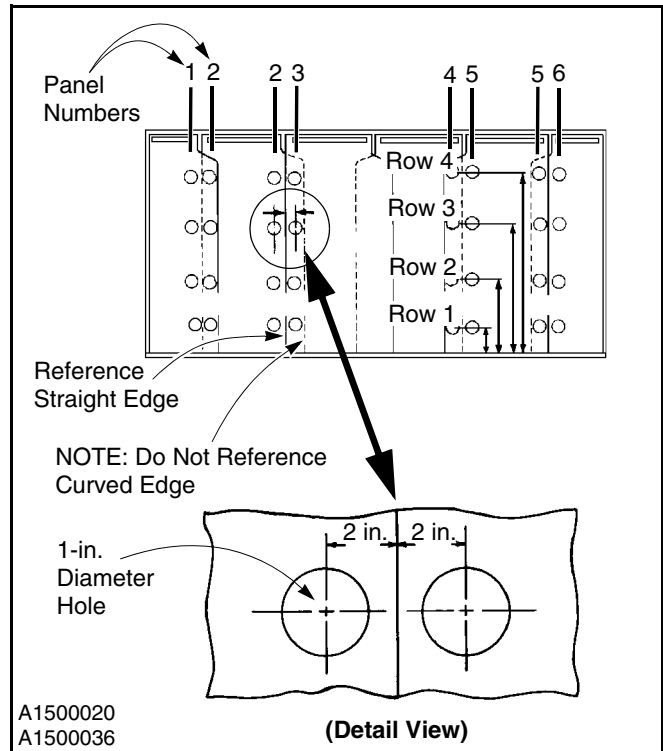

Figure 54
3. Once the number of rows is determined, the next step is to lay out a column of holes along each overlapping pair of panels. For example, panels 1 and 2, 2 and 3, and so on. (See Figure 54.)
Note that each panel has a straight, vertical edge along one side and a 45° cut near the top of the opposite edge. When laying out a column of holes, measure off the straight, vertical edge for all the holes in that column. The two, 1-in.-diameter holes used for each knob and rope tie are both centered 2 in. from the same vertical edge. (Refer to the detail view in Figure 54.)